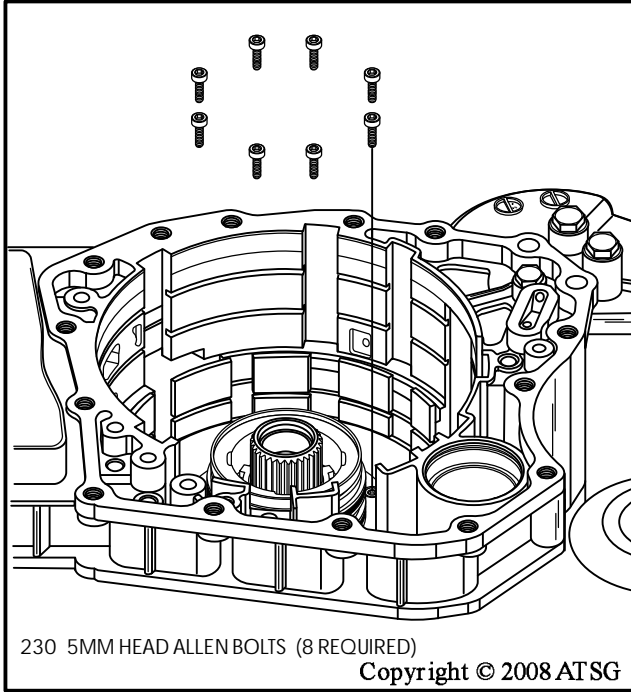

Figure 65
1. Remove the eight 5mm allen head retaining bolts from bottom of the case, as shown in Figure 65.